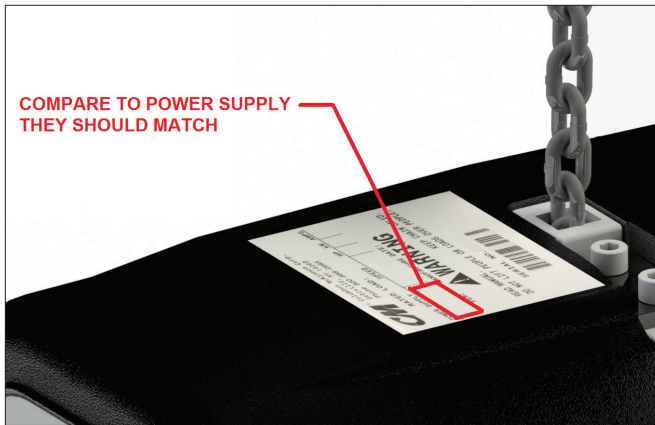

Figure 8 - Nameplate
1. Have ample capacity to prevent excessive voltage drop during starting and operation (refer to Figure 8). When determining the size of branch circuit components and conductors, special consideration should be given to the starting current-amps (approximately three times that shown on the hoist identification plate) and the length of the conductors. As a minimum, the system should be rated for 15 amps and it should have #16 AWG, or larger, wiring.